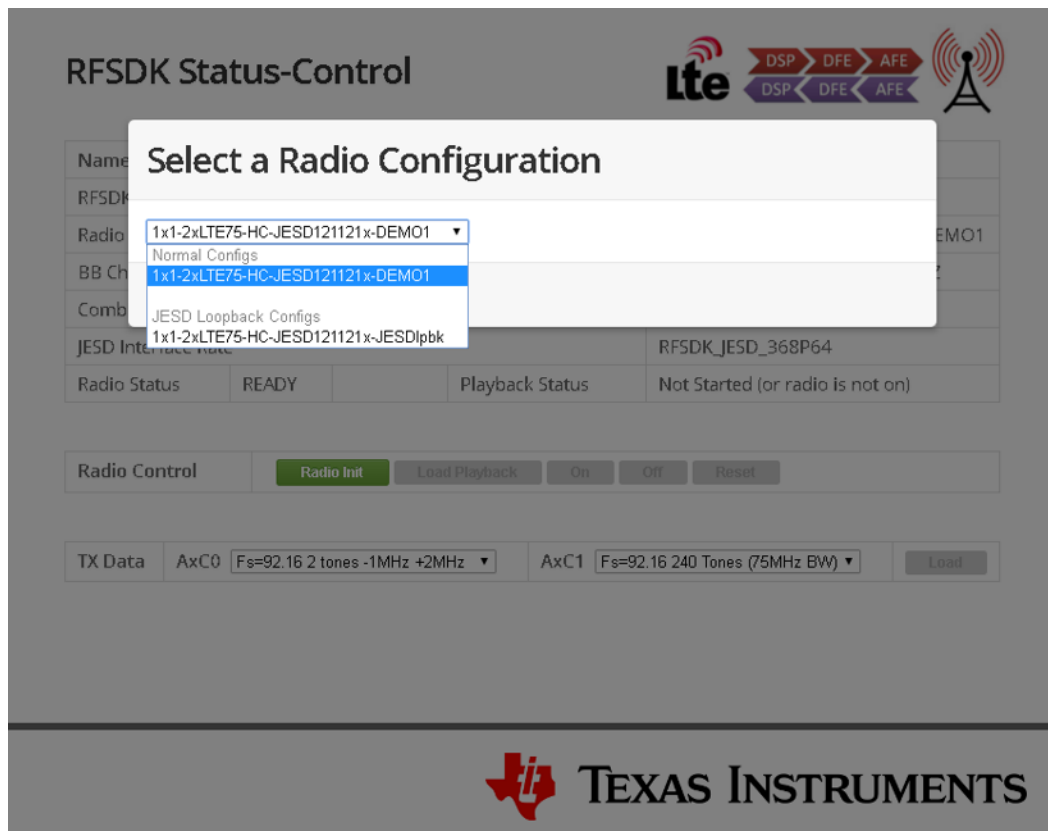

Figure 17. Radio Configuration Selection
7. Press the Select button once the reset is completed to bring up the Radio Configuration Selection dialog as shown in Figure 17.